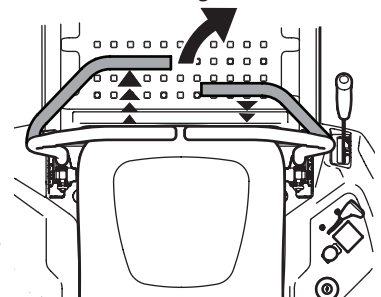

Figure 29
2. To turn to the right, move the right drive control lever rearward of the left lever. See Figure 29.